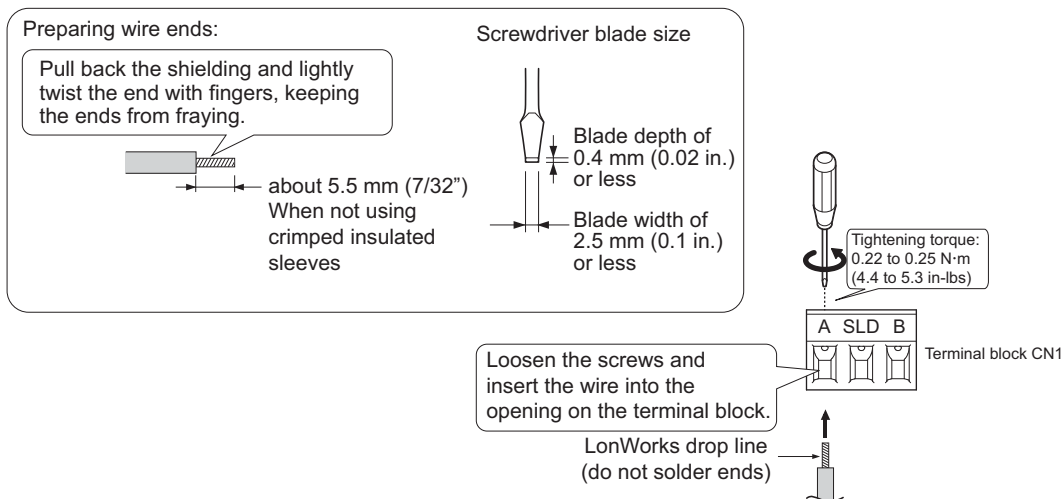

Figure 24 Prepare and Connect Communication Cable Wiring
2. Connect the communication cables to the terminal block as shown in **Figure 24**. Make sure the screws on the left and right sides of the plug are tightened with a tightening torque of 0.22 to 0.25 (N·m) or 4.4 to 5.3 (inch-lbs).